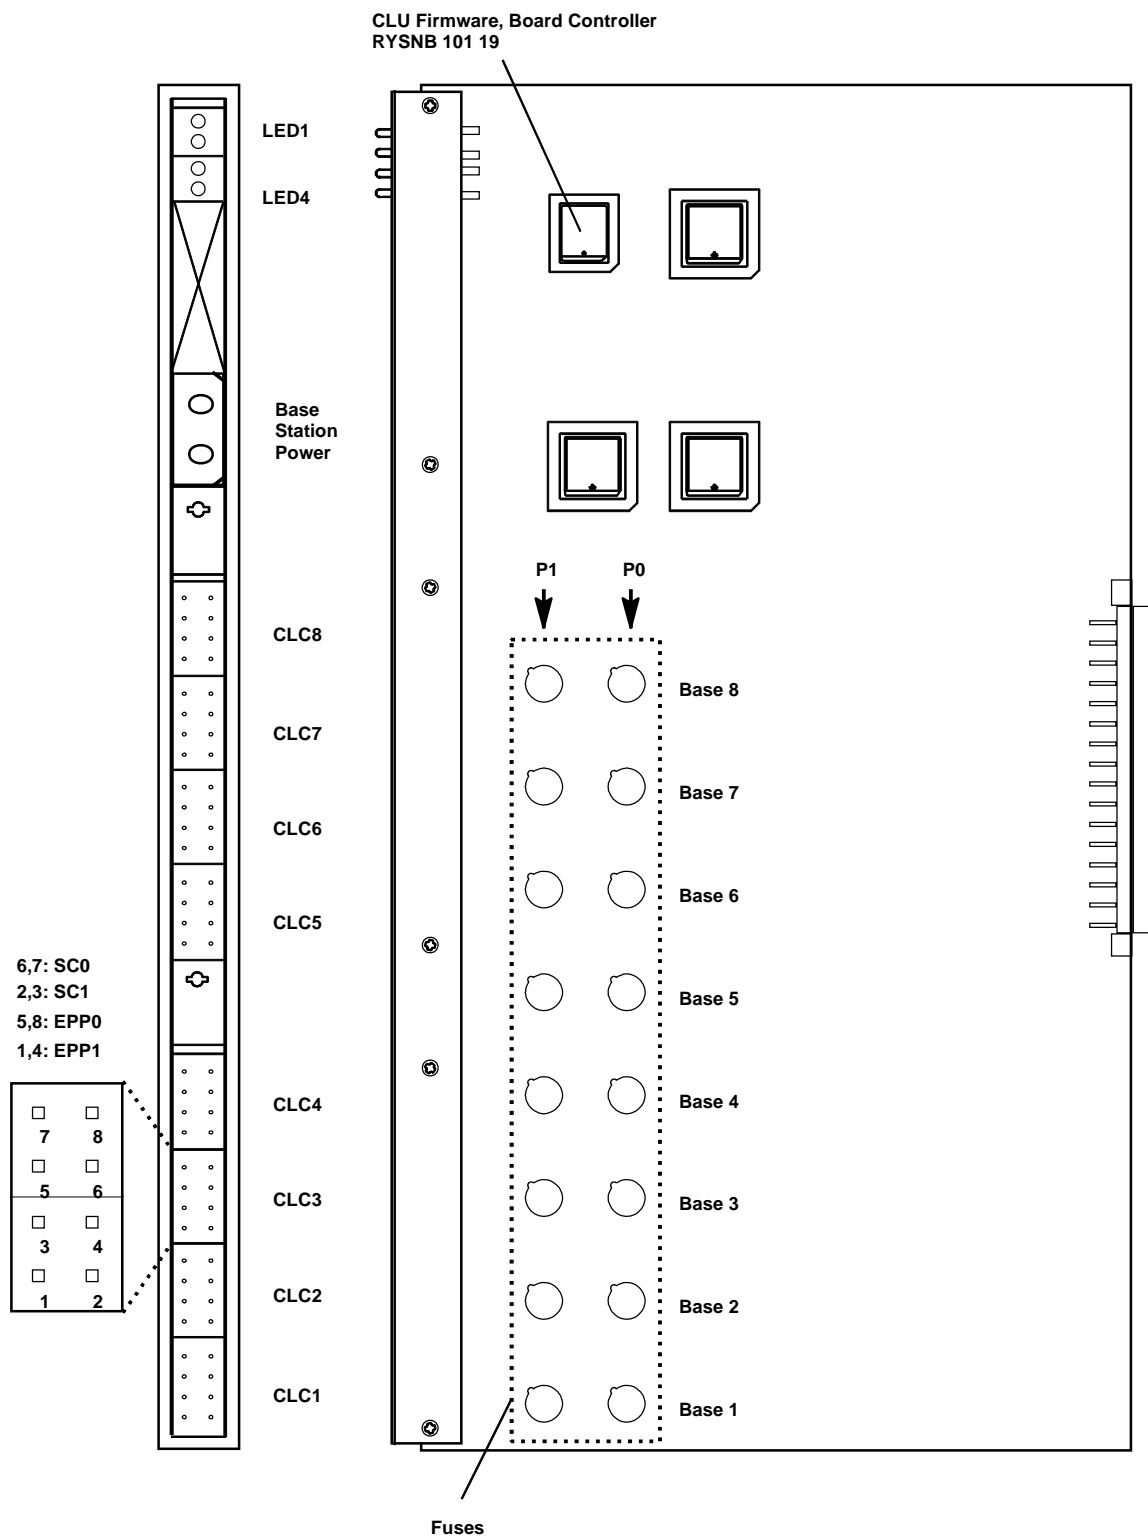

Fig. 7-1 CLU - REX-BRD0014 or ROFNB 157 11/2
The CLU contains the following field-exchangeable parts (see Figure 7-1):
- Two 1 AT fuses for each Base Station circuit (see Figure 7-1)